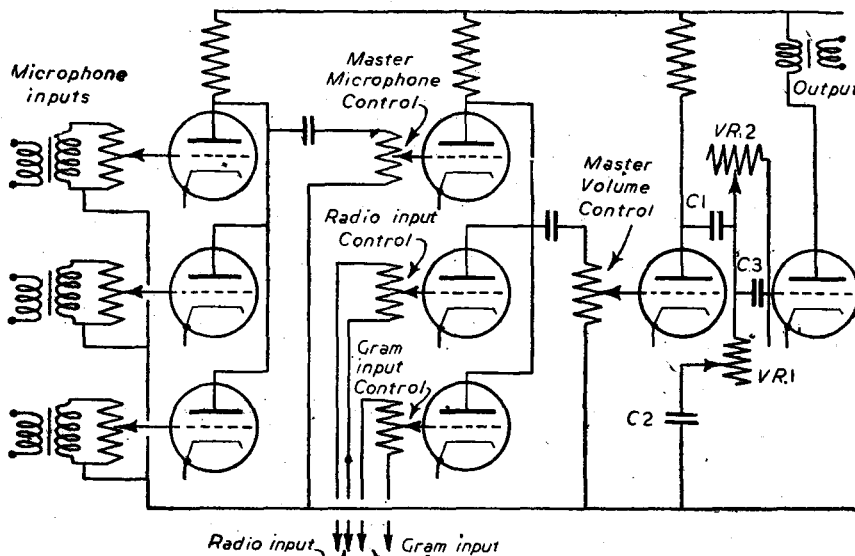

Fig. 5.—A comprehensive fader, mixer and tone control unit (unessential details omitted).
Fig. 5 is a typical circuit of this type of mixer. The three microphone inputs being of a lower level than the radio and gramophone inputs have an additional stage of amplification. All these various inputs may be mixed, faded, or superimposed as desired in any degree, and the resultant mixture controlled by the master volume control for feeding to the power amplifiers.
A typical tone control stage is shown in the last stage of the circuit of Fig. 5. V.R.1 and C.2 are the components of the brilliancy control. The condenser, C.2, by-passes the higher frequencies to earth when the variable resistance V.R.1 is at minimum resistance, but as the control is rotated to bring in more and more resistance, the effect of C.2 becomes less and less so that very little top note loss is observed with the control at maximum. In general practice, of course, the control will be wired up to give a top note cut as it is rotated in a clockwise direction, so that at the minimum position with regard to brilliancy control as indicated on the panel of the amplifier the control will be at maximum resistance.
V.R.2 and C.3 in Fig. 5 are the components of the bass control. C.1 is the normal coupling condenser between the two stages, and its capacity is large enough to pass the lowest frequencies required. By putting C.3 in series with it, and if the capacity of C.3 is equal to that of C.2, the effective capacity is halved, so that there is an attenuation of the lower frequencies.